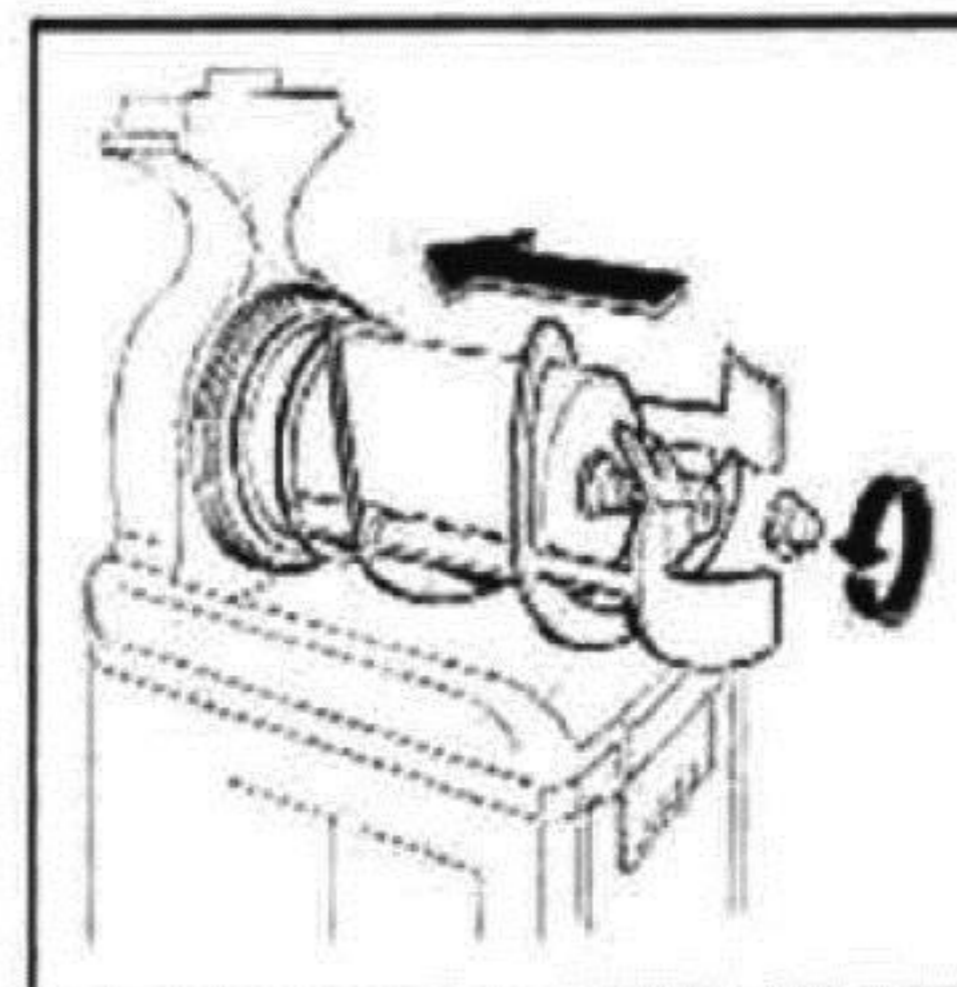

fig.36
- Block all these components into place by turning the knob in counter clockwise direction (fig.36).